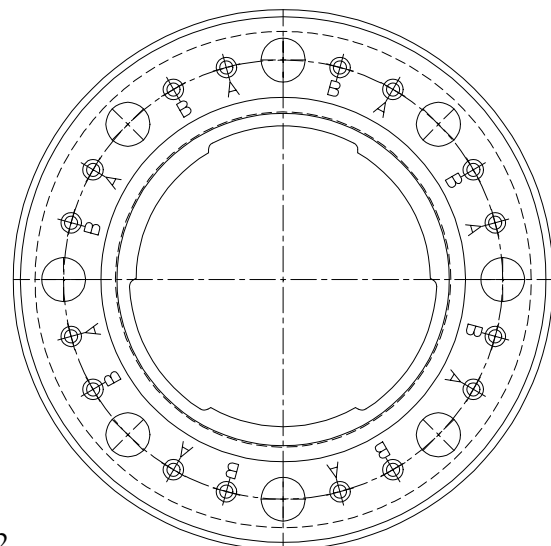

Fig. 3
Unscrew the sensor plate screws marked "A" (Fig. 3) (item 31) and remove the sensor plate.